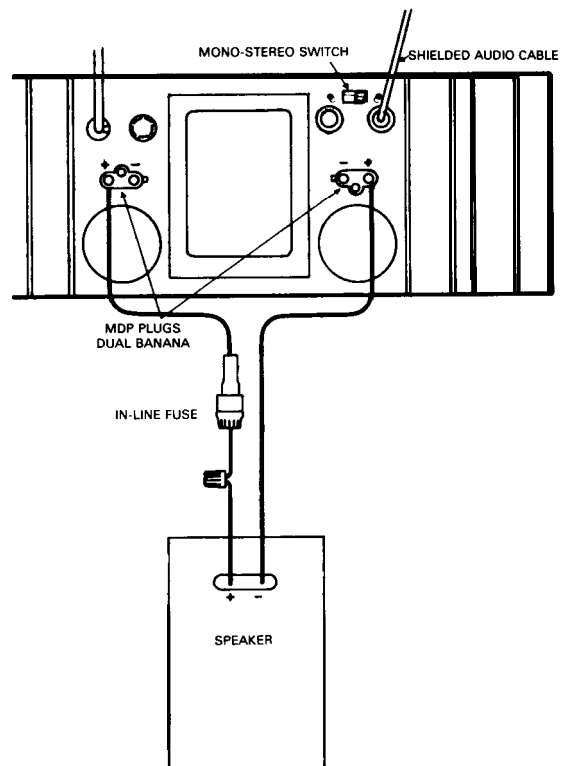

FIG. 2-7
- Connect output lines as per the following drawing, Figure 2-7. The output from the DC-300A in Mono is BALANCED and is isolated from the chassis, and from the input grounds to the DC-300A.